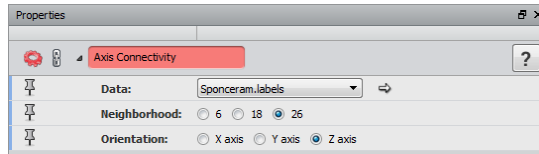

Figure 18.6: Axis Connectivity Module Configuration
3. Apply an *Axis Connectivity* module on the *Sponceram.labels*. Select a Neighborhood of 26 voxels in the neighborhood port. This allows keeping only the connected porosity of the sample (see Figure 18.6).